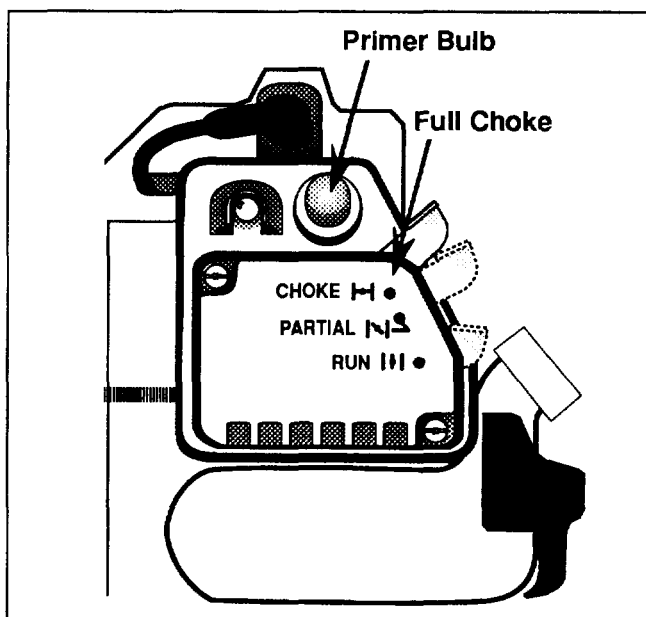
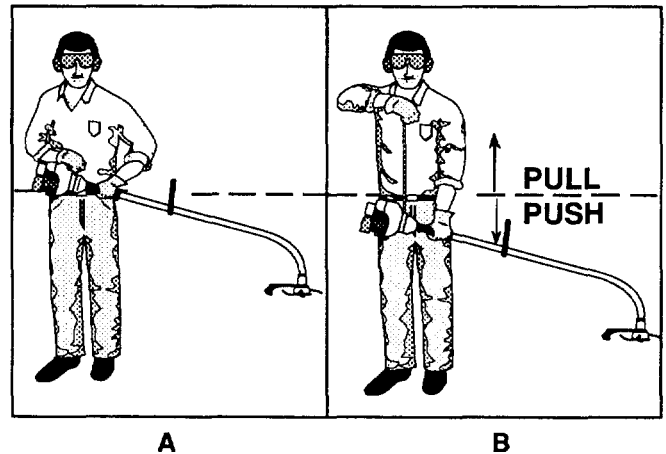

Fig. 6
Fig. 7
3. **FULLY PRESS AND RELEASE THE PRIMER BULB 5 TO 7 TIMES** (Fig. 6).
4. **MOVE THE CHOKE LEVER TO THE "FULL CHOKE" POSITION** (Fig. 6).
5. **HOLD THE UNIT IN THE STARTING POSITION WITH THE CUTTING HEAD AWAY FROM YOU** (Fig. 7-A).
7. **PULL THE STARTER ROPE BRISKLY** (Fig. 7-B) until the engine sounds like it wants to run (normally 2 to 5 pulls).
8. **MOVE THE CHOKE LEVER TO THE "PARTIAL" POSITION** (Fig. 6). Pull the starter rope briskly 1 to 3 times to start the engine (Fig. 7-B).
10. After the engine warms up for 5 to 10 seconds, **MOVE THE CHOKE LEVER TO THE "RUN" POSITION** (Fig. 6).